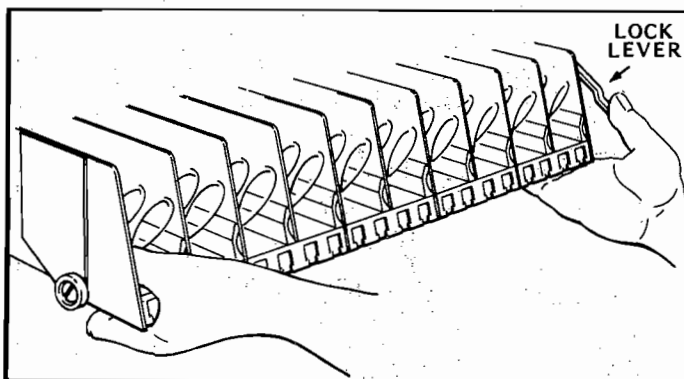

Figure 1. MOVING SHELF TO LOADING POSITION.
4. **LOADING SNACK SHELVES:** Open door to full open position, push down on white plastic lock lever (Figure 1) on right side panel by shelf to unlock shelf, holding lever down. Grasp the shelf slightly and pull forward until shelf reaches its stop. The shelves tilt down (do not drop) to make loading easier. Only one product shelf should be in the loading position at a time. When returning a shelf, be sure the shelf is in its full home or vend position. Begin loading with the top shelf. Move it to the loading position. The height spacing for items is greatest in this shelf and the tallest bagged items should be placed there. Soft items, such as pastry, pies, etc., should be placed in the lowest snack shelf, making the drop distance as short as possible.
- A. Lift up and push the lock lever toward the back of cabinet. See Figure 1, Page 5.